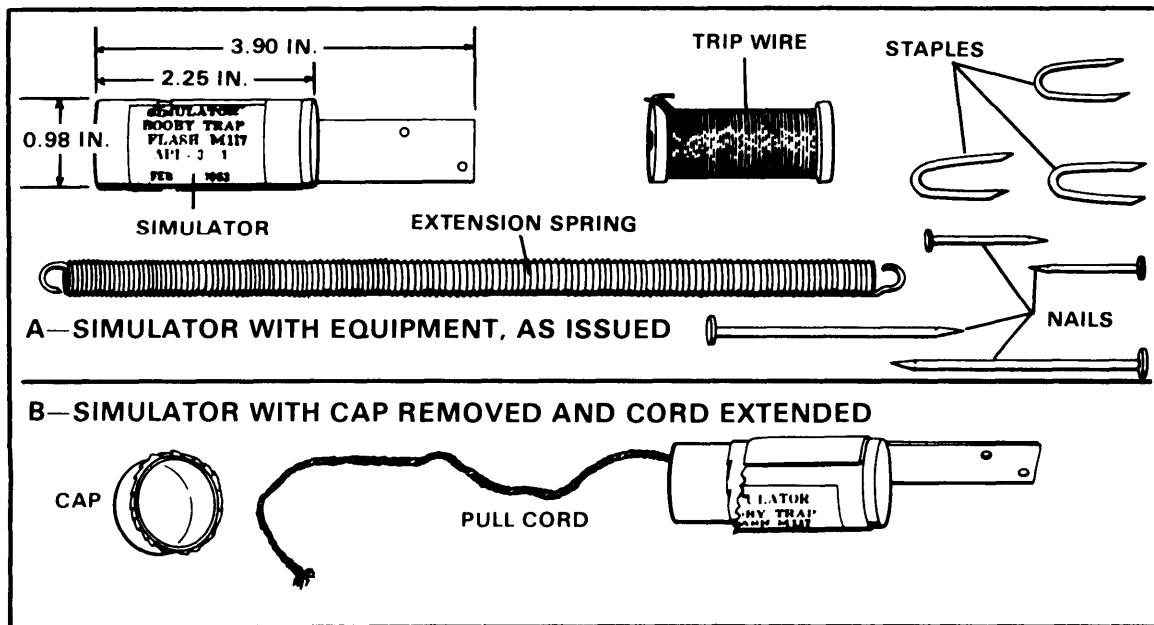

Figure 5-4. M117 simulator.
a. The booby trap simulator M117 (Figure 5-4) is used during training and military exercises. This device allows training in the installation and use of booby traps. When tripped/activated, the simulator functions with a loud report and flash.